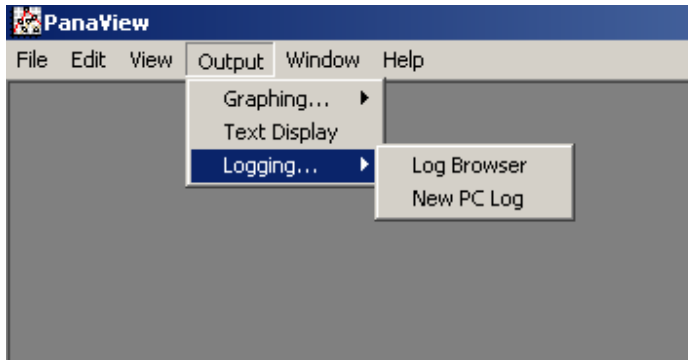

Figure 24: Log browser in the logging option
1. From PanaView, click on the *logging* option in the output menu. Then click on the *log browser* option, as shown in Figure 24 below.